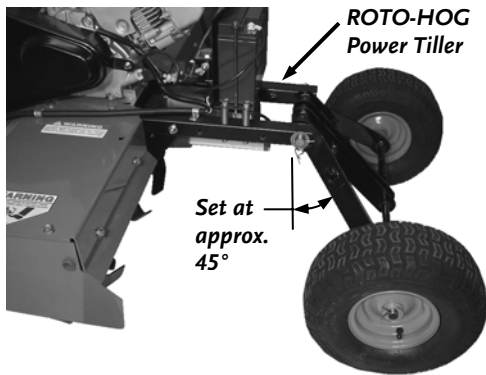

Figure 21
1. Rotate the ROTO-HOG Power Tiller Wheels to their halfway position with the ROTO-HOG Control Box (**Figure 21**).